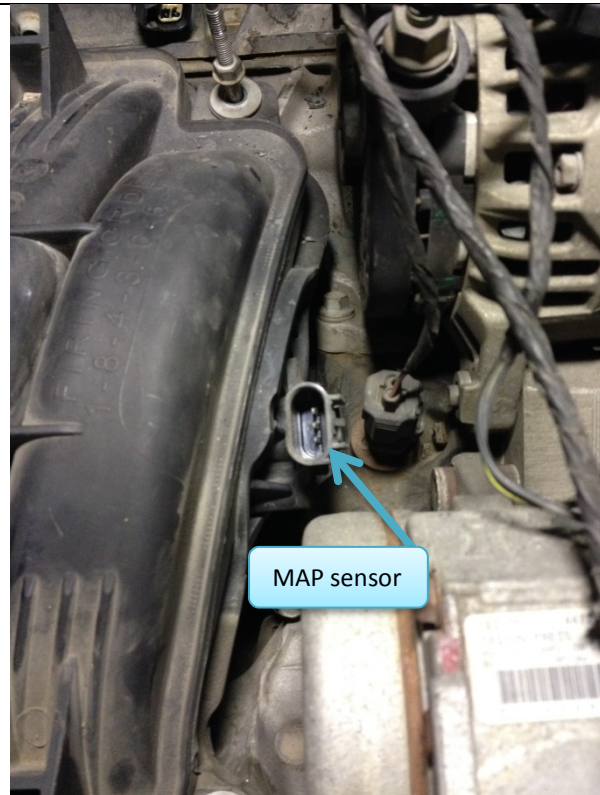

Figure 19: MAP sensor connector on intake manifold.
- 14.1. Disconnect alternator charging wire nut (Figure 19)
- 14.2. Disconnect alternator wire connector (Figure 19)